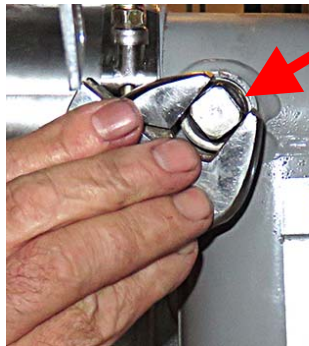

Figure 52
61. Remove the plug from the rear of the drain tube (see Figure 52).